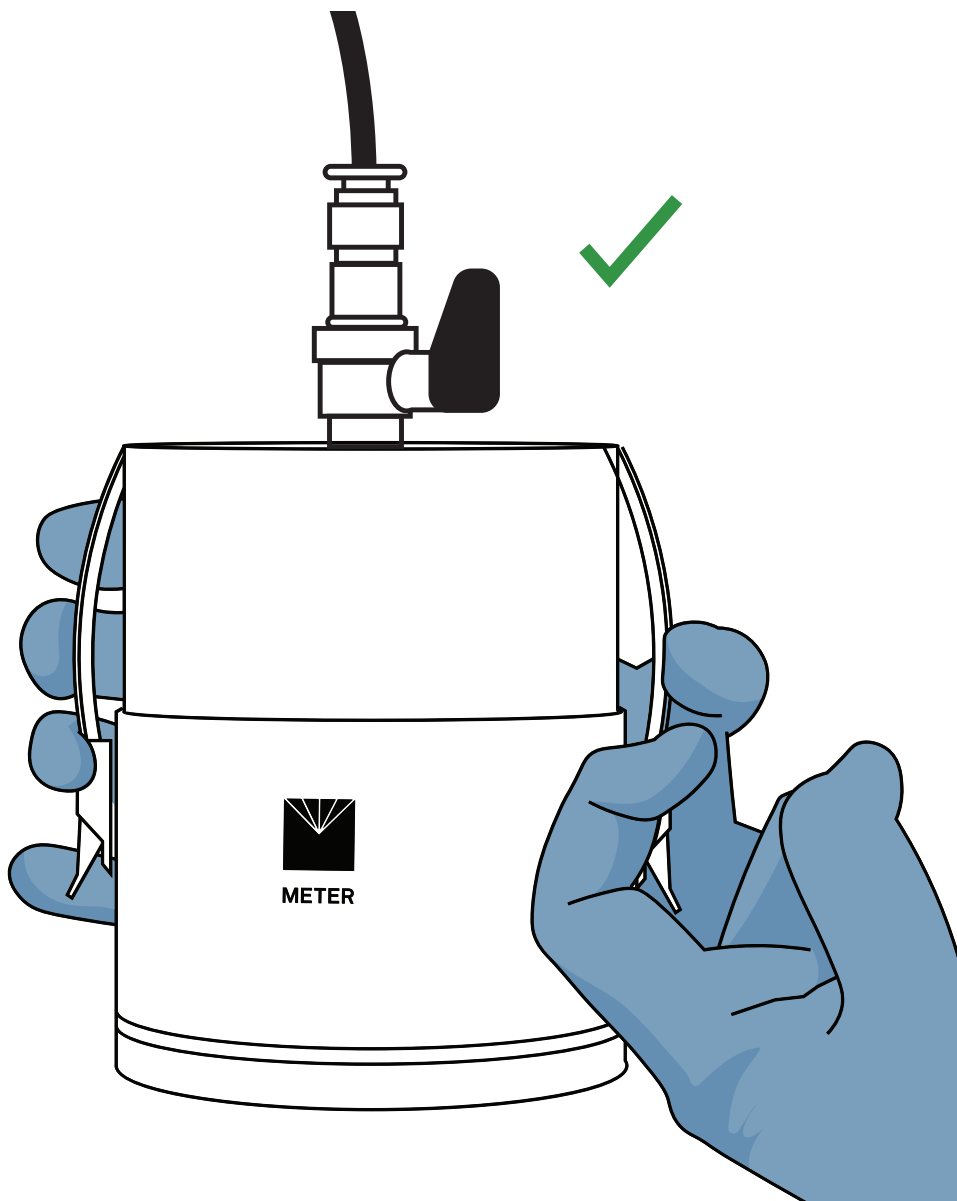

Figure 16 Remove air bubbles
10. Let the air bubbles rise into the tube by cautiously knocking and shifting the sensor unit (Figure 16).